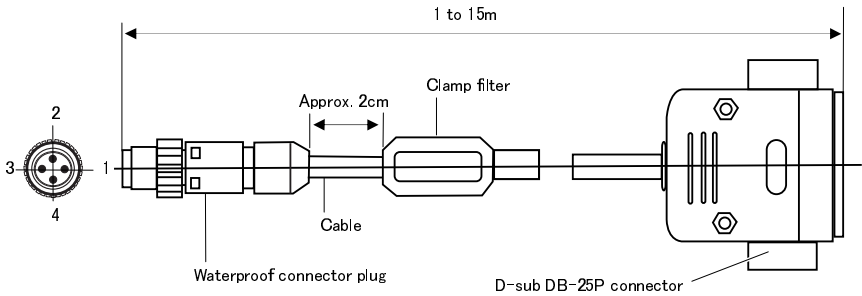

Fig.8-2
### ① RS-232C output cable and code tables (Fig.8-2)